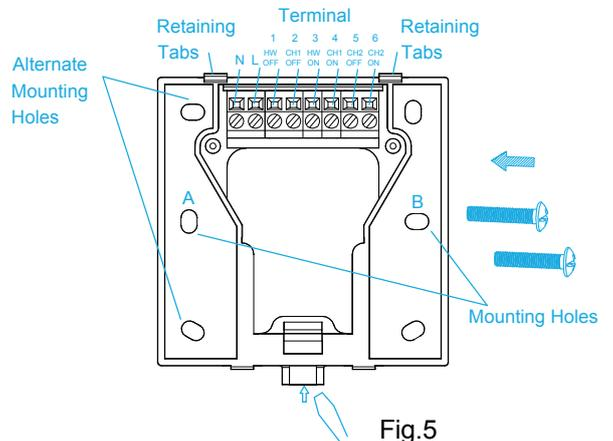

Fig.5
1. Remove the mounting plate from the unit by prying off the mounting plate in position A (as showing in Fig. 5) with a screwdriver, and pivoting the bottom of the unit outwards. The CHPPR3 body can then be lifted off.